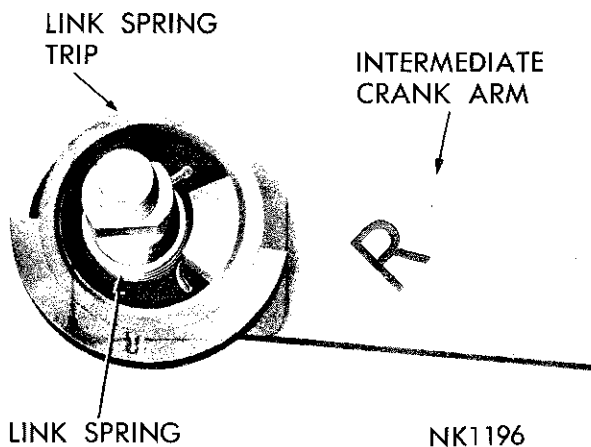

Fig. 4—Link Spring Trip Installed
- (1) Install the spring washer, concave surface toward crank arm. Install the crank pivot coil spring on the pivot. Install the spring release.
- (2) Install the parking cam to index with spring release and engage spring ends, between the release and parking cam in openings at point of index (Fig. 4).